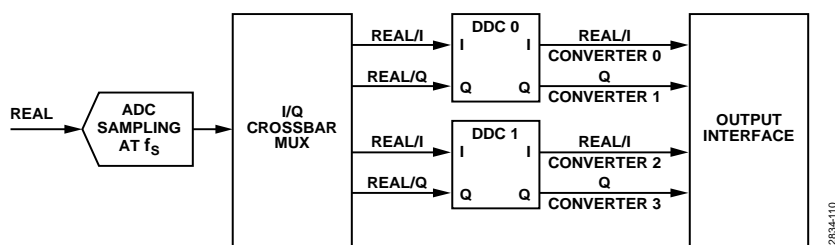

Figure 110. DDCs and Virtual Converter Mapping
The JESD204B Tx block for AD9690 supports up to four DDC blocks. Each DDC block outputs either two sample streams (I/Q) for the complex data components (real + imaginary), or one sample stream for real (I) data. The JESD204B interface can be configured to use up to four virtual converters depending on the DDC configuration. Figure 110 shows the virtual converters and their relationship to the DDC outputs when complex outputs are used. Table 25 shows the virtual converter mapping for each chip operating mode when channel swapping is disabled.
If the internal DDCs are used for on-chip digital processing, M represents the number of virtual converters. The virtual converter mapping setup is shown in Figure 110.